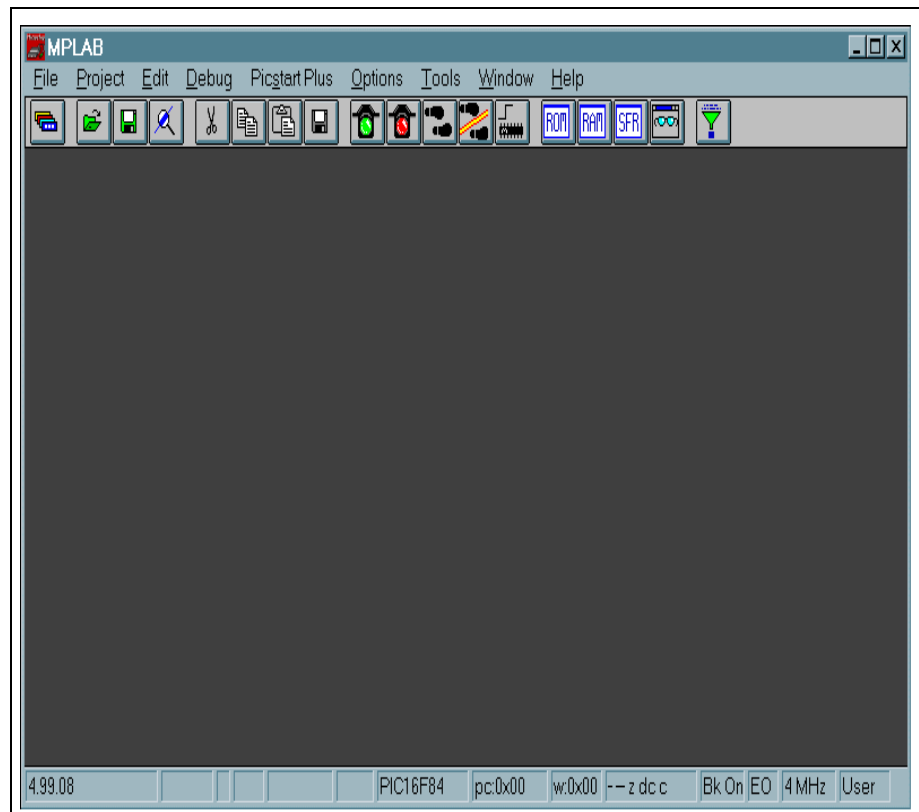

Figure 2.1: MPLAB IDE Desktop
7. Start the MPLAB IDE by executing `MPLAB.EXE` or click on the MPLAB IDE icon. You will see the MPLAB IDE desktop as shown in Figure 2.1.